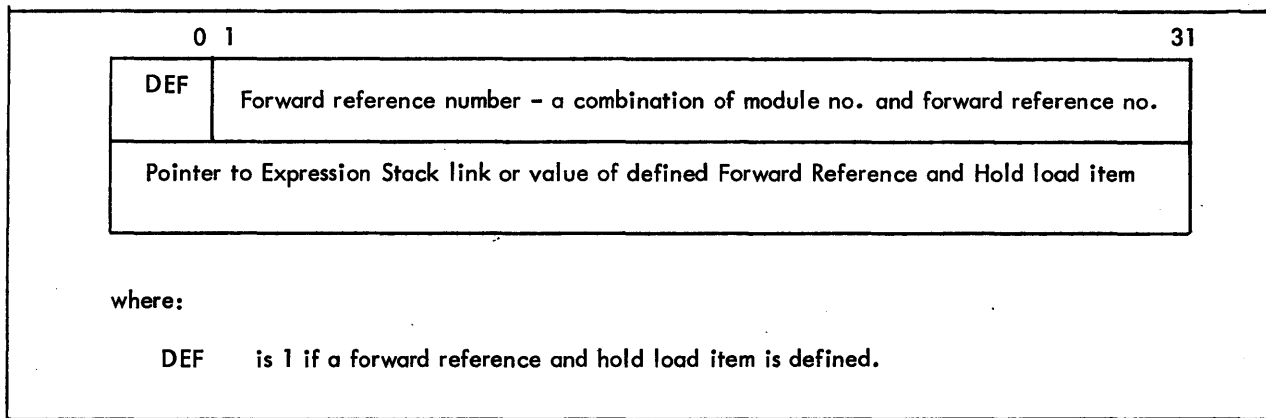

Figure 2-14. Forward Reference Stack
5. Forward Reference Stack. See Figure 2-14.